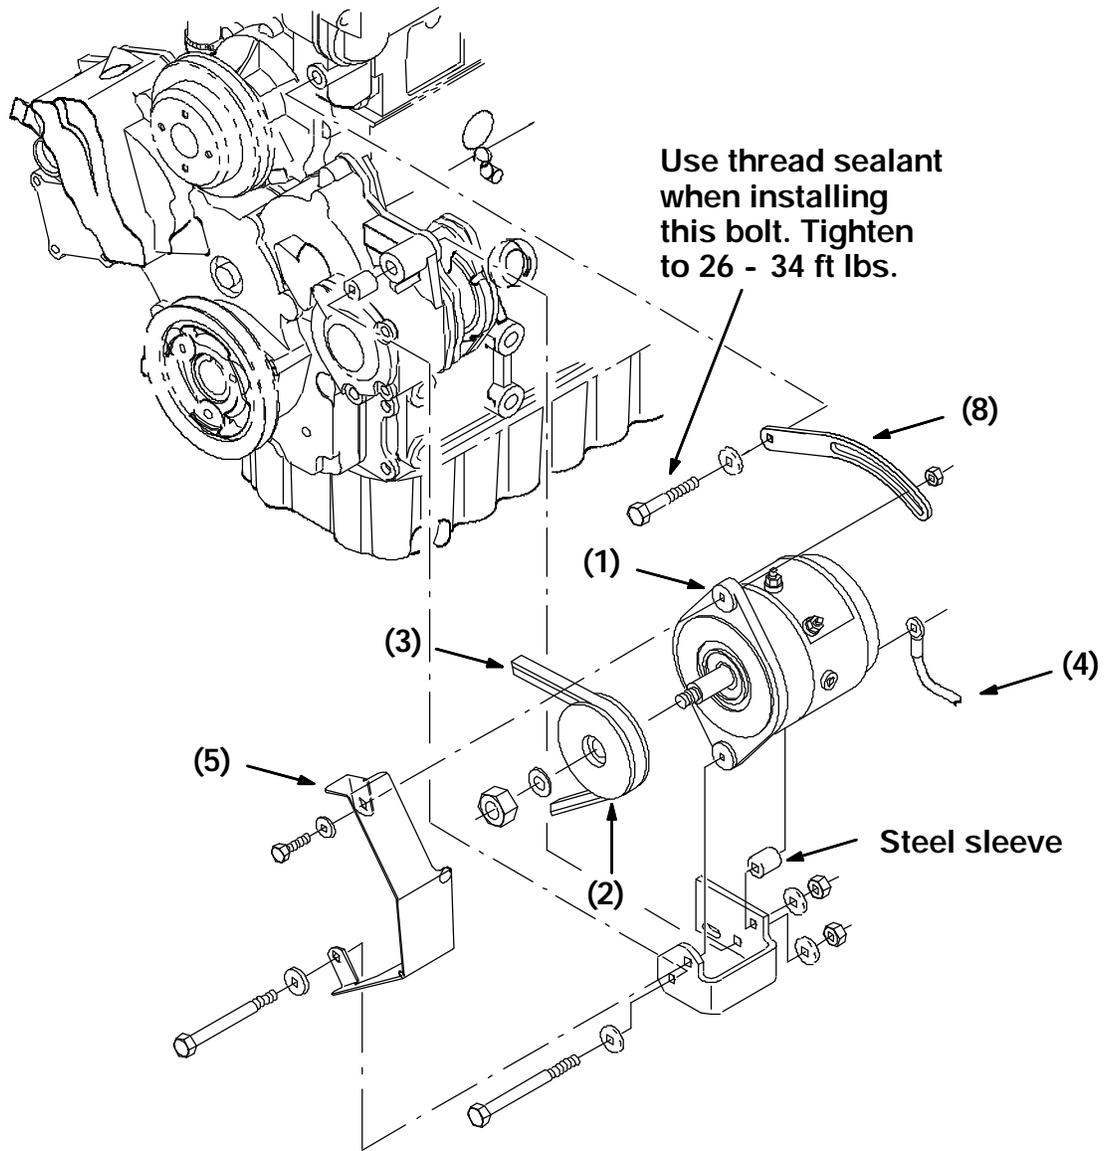

FIG. 2 - Alternator Assembly (Diesel machines only)
9. Remove the lower mount bolt and nut. Remove the existing alternator from the engine. *Retain the steel sleeve (Diesel only).* (Refer to FIG. 2)
10. **DIESEL ONLY:** Remove the existing slotted alternator arm from the diesel engine and install the new arm (8) in the same location. **NOTE: Make sure the engine is completely cooled and the radiator cap is removed before loosening the alternator arm bolt - a small amount of engine coolant may run out of the bolt hole. Use thread sealant on the bolt when installing the new arm (8). Leave the bolt loose for now.** (Refer to FIG. 2)
17. Reconnect the machine battery, reinstall the radiator cap (Diesel only), and start the engine. Check the new alternator for proper operation and for any coolant leaks at the arm mount bolt (Diesel only). (Refer to FIG. 2)